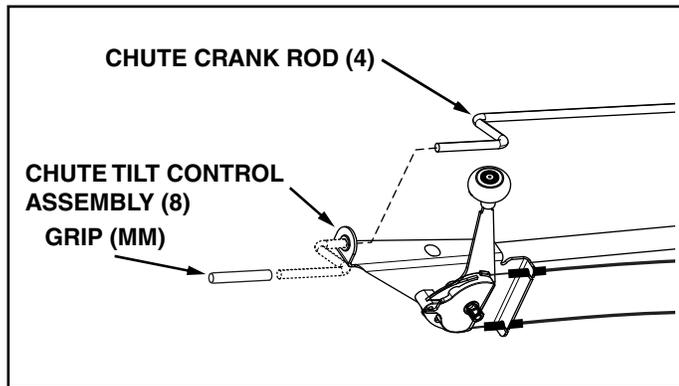
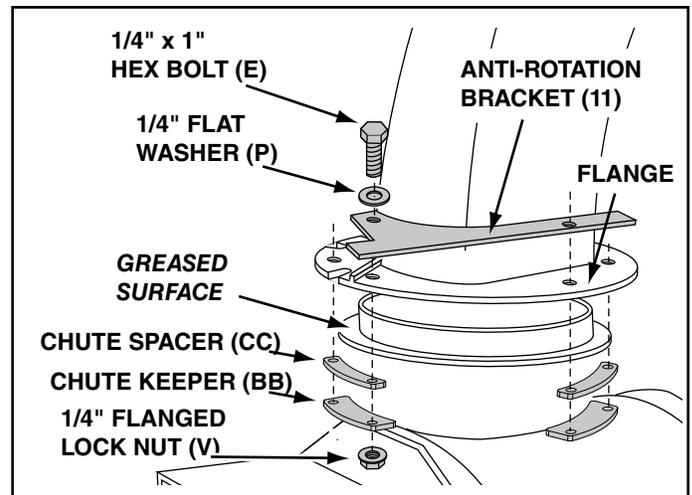

FIGURE 51 **RIGHT SIDE VIEW**
FIGURE 53 **RIGHT SIDE VIEW**
STEP 52: (SEE FIGURE 51)
- Install the chute crank rod (4) into the plastic bushing in the chute tilt control assembly (8).
- Install the grip (MM) onto the chute crank rod (4).
STEP 54: (SEE FIGURE 53)
- Place the discharge chute (facing forward) onto the ring. Place the anti-rotation bracket (11) on top of the chute flange, aligning it with the holes on the right hand side of the flange. Attach the three chute spacers (CC) and chute keepers (BB) to the bottom of the flange using six 1/4" x 1" hex bolts (E), 1/4" flat washers (P) and 1/4" flanged lock nuts (V). **Tighten carefully** so that the nuts are snug but do not dig into the plastic chute keepers.
- Position the crank rod spiral (see figure 51) so that it does not rub against the bottoms of the notches in the chute flange. **Tighten** the nuts.
- Secure the control cables to the crank rod support tube using a nylon tie (LL).